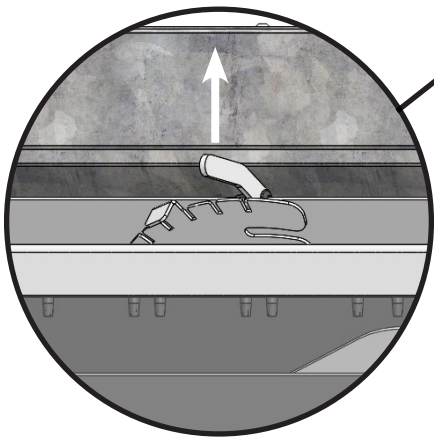

Fig.28
3. Lift the restrictor tab off of the restrictor index plate. **(Fig.28)**